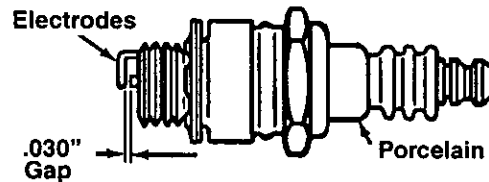

Figure 18
- Replace the spark plug if electrodes are pitted, burned, or the porcelain is cracked. See Figure 18.
- Clean the spark plug and reset the gap to 0.030" at least once a season or every 100 hours of operation. See Figure 18. Replace if necessary.